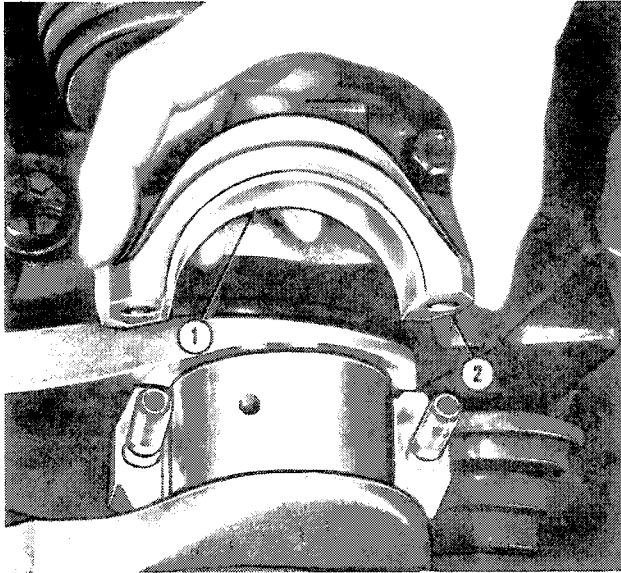

Figure 40
2. With the piston at the bottom of its stroke, remove the nuts from the bearing cap bolts and remove the bearing cap and liner, Figure 40.